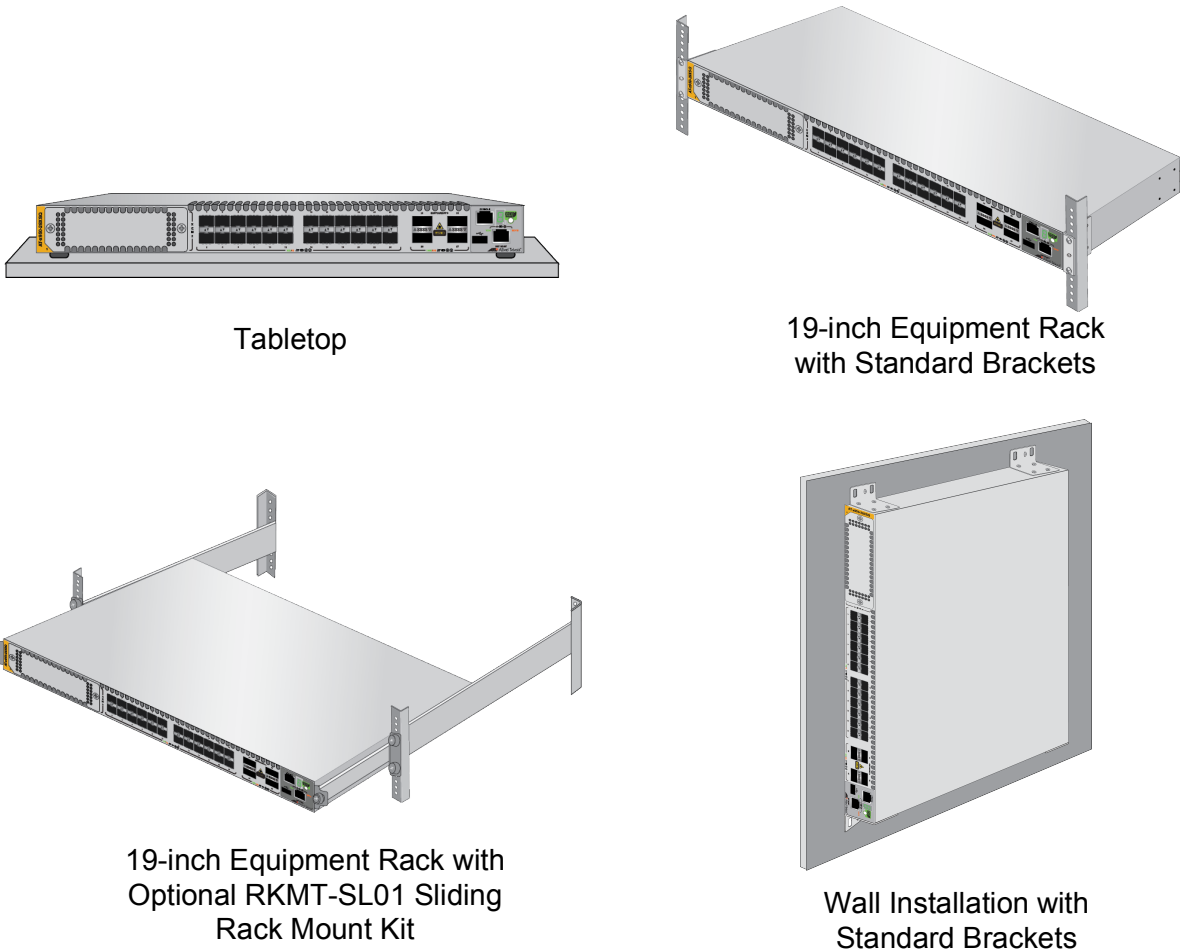

Figure 47. Installation Options
- ❑ The switch has four orientation options. Refer to Figure 47.